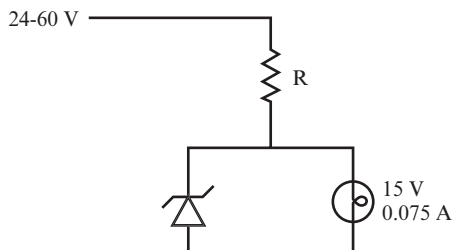

FIGURE 2.32
- 32** Use Figure 2.32 to answer the following question.
For the circuit shown in Figure 2.32, what power rating should the zener diode have? The current and voltage ratings of the lamp are given. _____